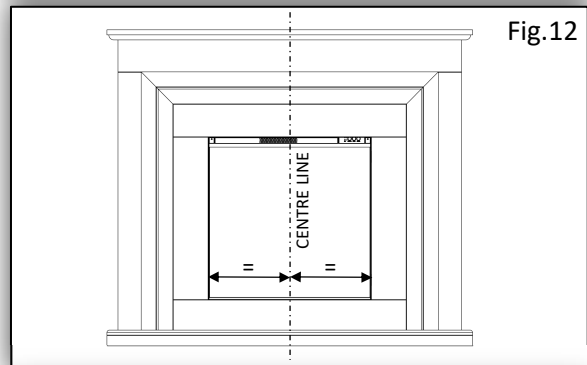

Fig.12
13. Viewing the Suite from the front, adjust the Fire (J) to be positioned centrally in the Suite opening. Fig.12.